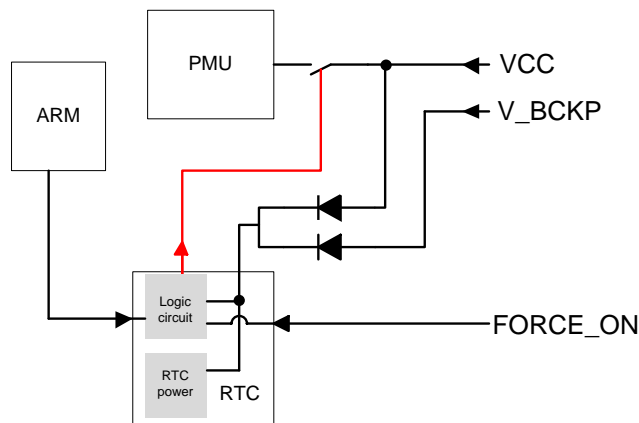

Figure 3: Internal Power Construction
- Send "\$PMTK225,4*2F" Command (the signal marked red line opens the switch in **Figure 3**) to enter into backup mode. The only way to wake up the module is pulling the FORCE_ON pin high (the signal marked red line closes the switch in **Figure 3**).